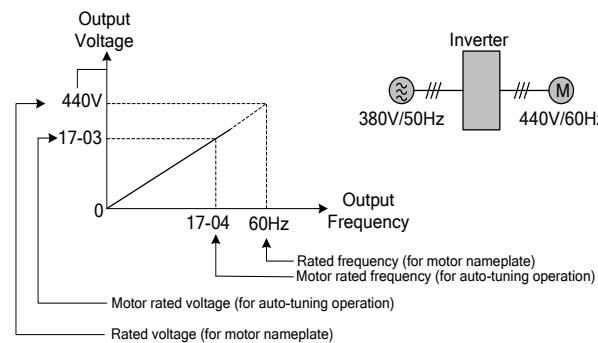

Figure 4.3.138 Rated Voltage and Frequency Settings
- ⑦. 16-36 RTC Speed Selection via Timer 1: Set Parameter 16-36 (Speed Selection) to 1: Selected by Timer 1. When Timer 1 is active, the frequency corresponds to Preset Speed 0. Set Parameter 16-37 (Run Direction Selection) to 0000b, so the run direction for Time Periods 1 to 4 (P1~P4) corresponds to the settings of 16-37.
- ⑧. To select two preset speeds (Speed 1 and Speed 2), set Parameter 16-36 (RTC Speed Selection) to 5: Selected by Timers 1 + 2. When Timer 1 is active, the frequency corresponds to Preset Speed 1 (Parameter 05-02); when Timer 2 is active, it corresponds to Preset Speed 2. Set Parameter 16-37 (Run Direction Selection) to 0000b, so when Timers 1 and 2 are active, the motor will run forward.
- Before using the offset time function, make sure to select RTC Offset (Parameter 16-30) and set the RTC Offset Time (Parameter 16-31). The inverter will follow the configuration defined by the time period-to-counter assignment function, which varies depending on the setup. Refer to Figure 4.3.138 below for the configuration of time period assignment to counters.